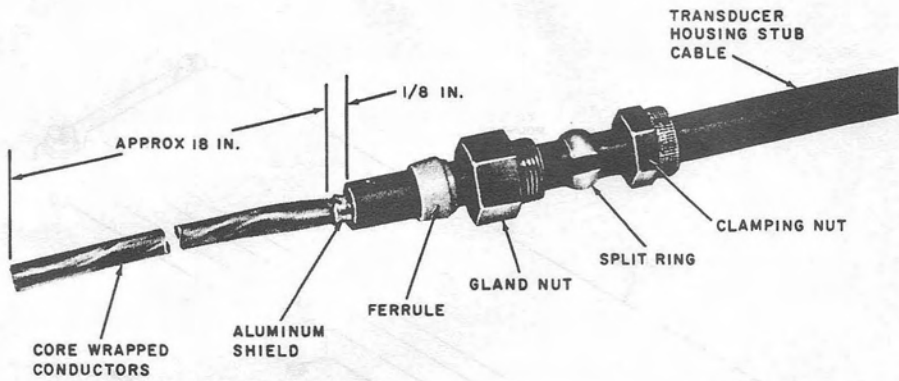

Fig. 8—Arrangement of B Stub Cable Fitting on Transducer Housing Stub Cable
- (3) Remove 1/8-inch of sheath to expose the inner aluminum shield as shown in Fig. 8.
- (4) Slide the components of the B stub cable fitting onto the stub cable in the order shown in Fig. 8.